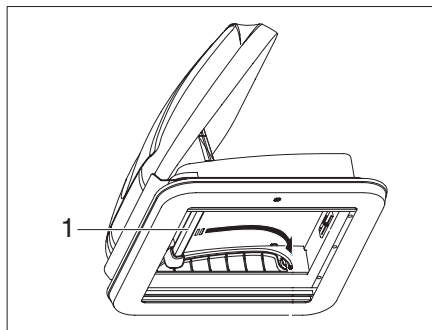

Fig. 61 Close the dome
- Slide the push rod (Fig. 61,1) along the track to the end. When a clicking sound is heard, the push rod is locked.